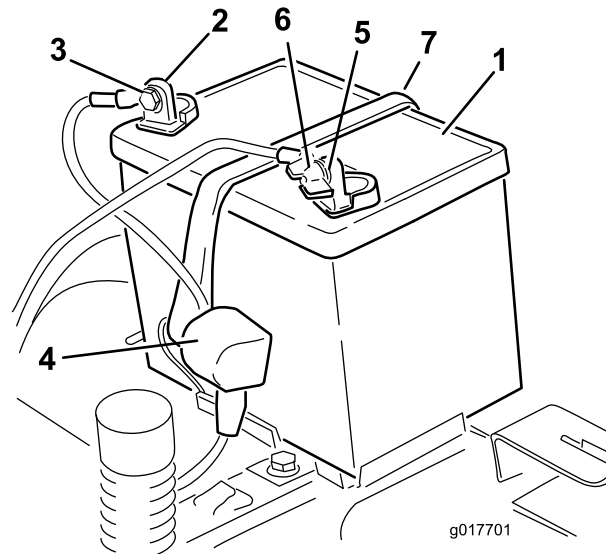

Figure 38
4. Disconnect the negative (black) ground cable from the battery post (Figure 38).
6. Disconnect the positive (red) cable from the battery post (Figure 38).
7. Remove the battery hold-down (Figure 38), and lift the battery from the battery tray.
- Position the battery in the tray (Figure 38).
- Secure the battery with the hold-down (Figure 38).